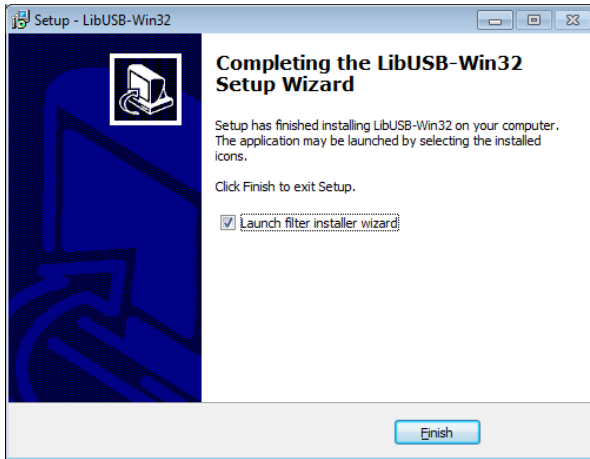

Figure 5.1.
2. Then run `libusb-win32-devel-filter-1.2.6.0.exe`, which can be found in the folder '`<grmon-ver>/share/grmon/`', where `<grmon-ver>` is the path to the extracted win32 or win64 folder from the the GRMON archive. This will install the `libusb` filter driver tools. Step through the installer dialog boxes as seen in Figure 5.1 until the last dialog. The `libusb-win32-devel-filter-1.2.6.0.exe` installation is compatible with both 64-bit and 32-bit Windows.